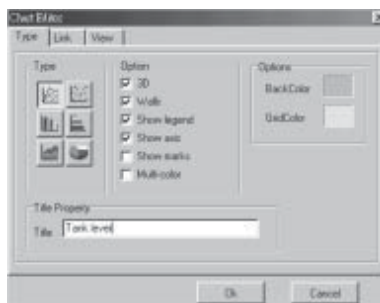

Fig. 4-35 Select the Diagram
2. Select the **Input port of the FAB** to be defined. Click **Type** and select the required shape form, as in Fig. 4-35.